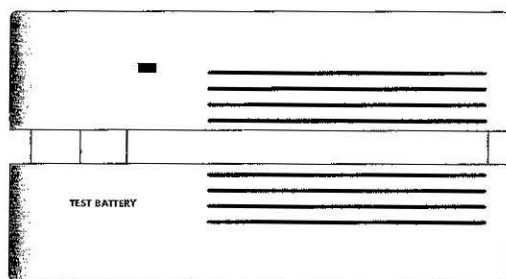

Fig. 08-15 - CO Detector
This device sounds an alarm to alert you of the presence of carbon monoxide (CO) gas inside your RV (see Fig. 08-15). Carbon monoxide is an extremely dangerous, potentially fatal, tasteless and colorless gas. See the chapter on *Safety Considerations* for further